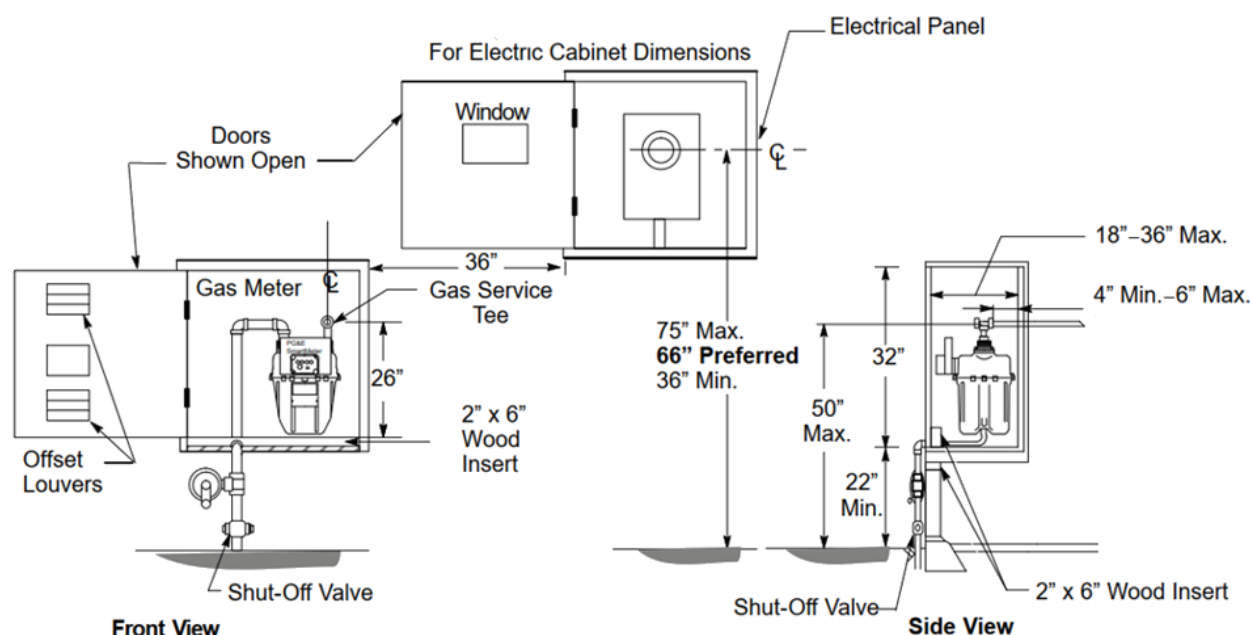

Figure 14. Specifications for a Recessed Individual Meter Cabinet
- E. Cabinets are limited to a minimum depth of 18 inches and a maximum depth of 36 inches. See Figure 14, for specific meter cabinet sizes and clearances. Cabinets deeper than 36 inches must conform to the requirements of GDS J-16.